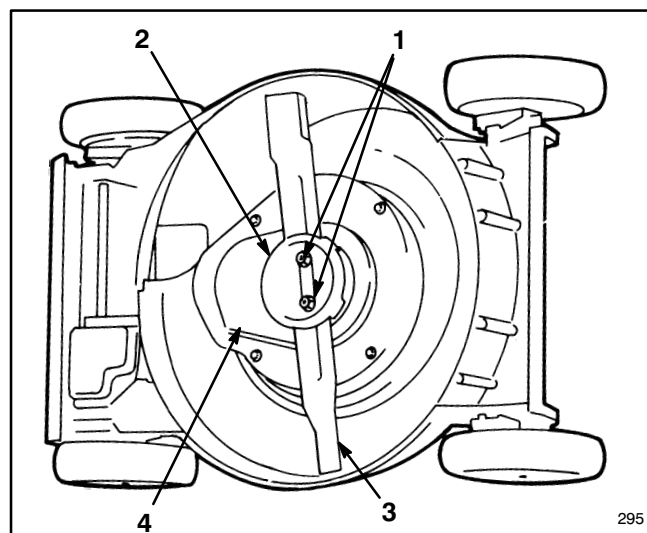

Figure 34
3. Tip mower on its left side (Fig. 34).
4. Remove two blade nuts, anti-scalp cup, blade, blade spacer, rotating screen, and four bolts securing BBC shield to mower deck (Fig. 34 & 35).